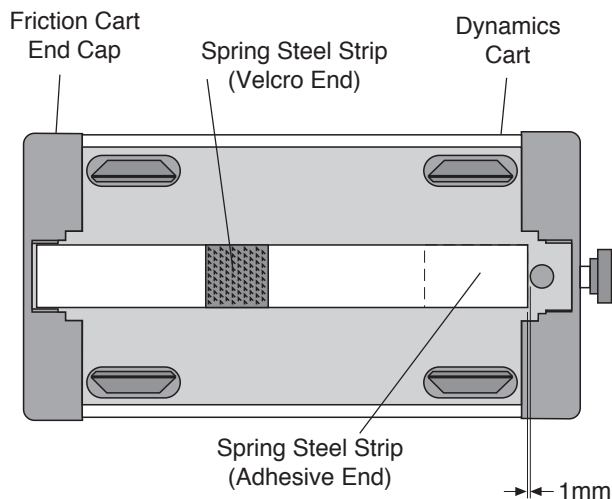

Figure 2 Spring Steel Strip Location
- ② Replace the standard end cap with a Friction Cart End Cap (included with this kit) using the same screws. If screws are damaged or lost, use the replacement 6-32 X 9.5mm thread forming screws included with this kit.
- ③ Remove the protective cover from the adhesive foam on the spring steel strip (also included with this kit). Locate and firmly apply the spring steel strip to the bottom of the Dynamics Cart as shown in Figure 2.